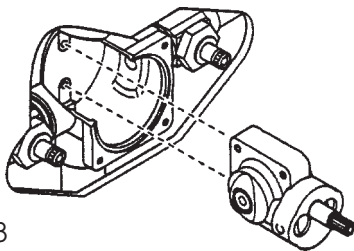

Fig 8
14. Position the valve cover with stop pin facing down. Seat the cover to the body. Do not pinch the O-ring. The assembly should fit together with a minimum of pressing force. Reverse Figure 8.